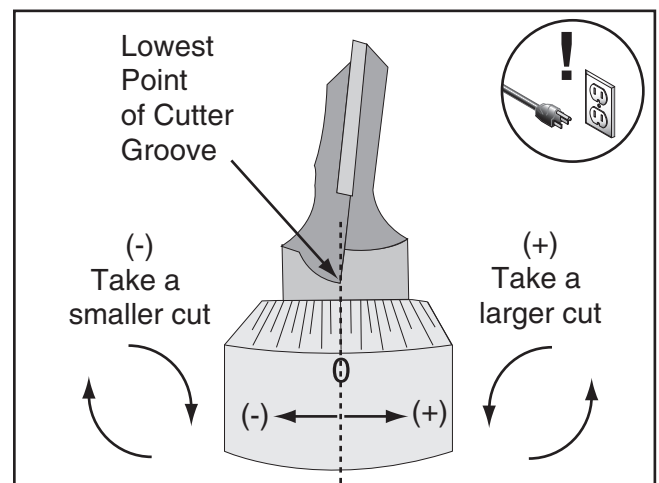

Figure 46. Understanding cutter adjustments.
4. Rotate the cutter inside the spindle as necessary to take a smaller or larger cut (see **Figure 46**). Use the lowest point in the cutter groove to keep track of the cutter position during adjustments.